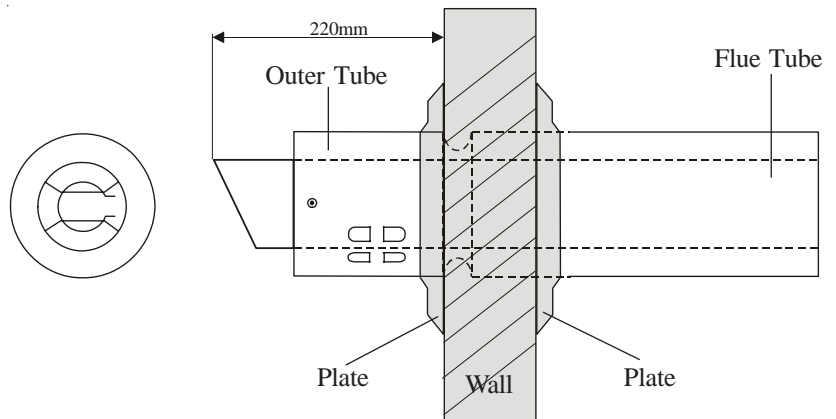

Fig. 5
- 5.2.5 The flue **MUST** be fitted with the protrusion as shown in Fig. 5